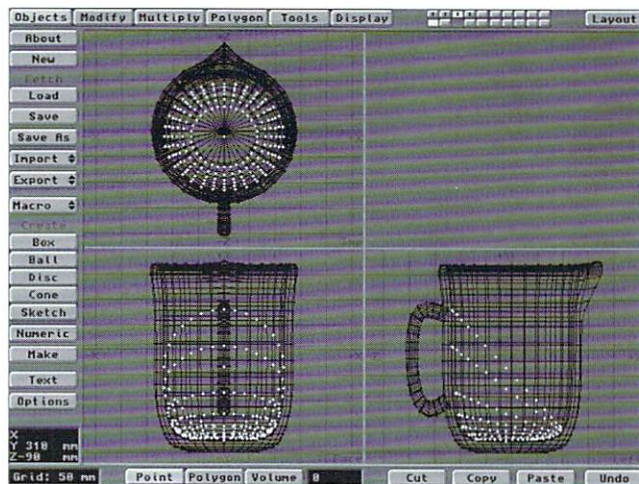

Figure 4: The first water morph target, minus polygons.
- Select the **Stretch** tool (**Modify** panel or h), and with the center of the tool positioned at the bottom of your water object, double the height of the water object along its Y axis. Select the **Taper2** tool (**Modify** panel), and with the center of the tool positioned at the bottom of the water object in the Face (XY) view, taper the shape of the object down to .1 on the Y axis only. Next, select the **Stretch** tool again and resize the tapered water object by .9 along the Z axis to make the object fit better into the bottom of the water container. Your values may differ slightly depending on the shape of your object.
- To save some memory, click on the **Remove** button (**Polygon** panel or k) to eliminate all of the polygons from this object in order (morph targets only need to contain points if you are using **Surface Morph**). You should end up with an object that looks like the one in Figure 4.